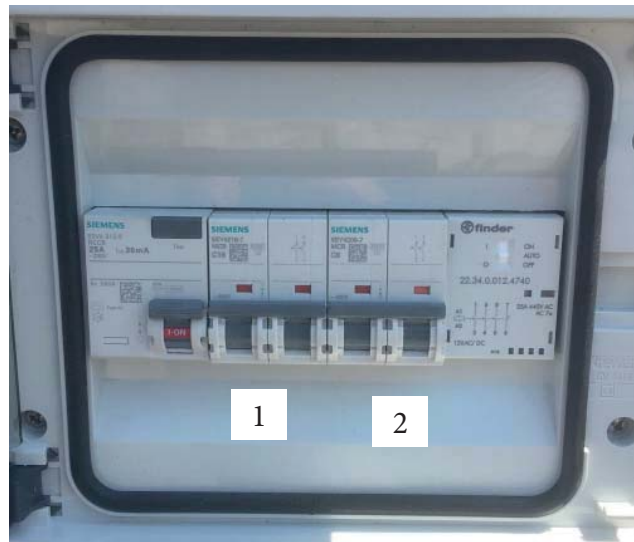

fig 3.4
- Also on the control panel on the ground is possible to turn on the engine from the switch 10 of fig. 3.4.
- 2) actioning the selector 13 Fig. 3.2: in central position the speed is high, while on the left side the tracks motors displacement is reduced. Keep the selector 13 of Fig. 3.4 on the left side to make the steering easier.